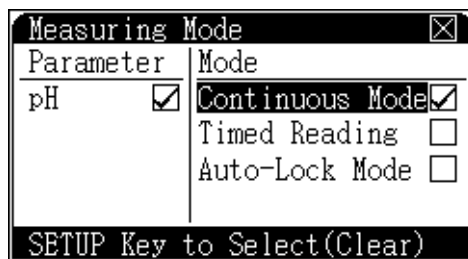

Figure 11 Measuring mode
- 1 Press **[Setup]** and then **[Enter]**. The meter displays is similar to Figure 11. The left side displays parameters. The right side lists the measuring modes. A ✓ next to a mode means that this mode has been selected in the current setup.